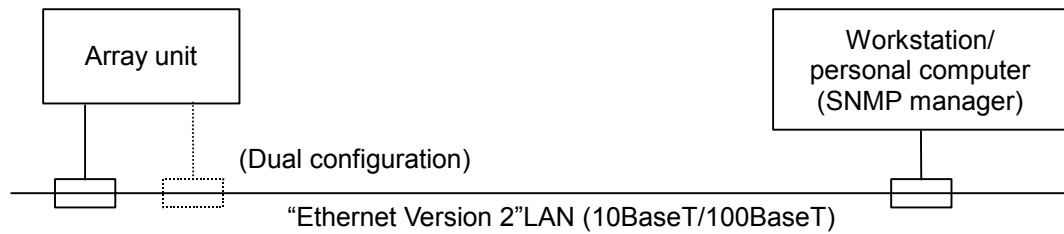

Figure 1.2 Local LAN Connection
- Local LAN connection (Figure 1.2), and